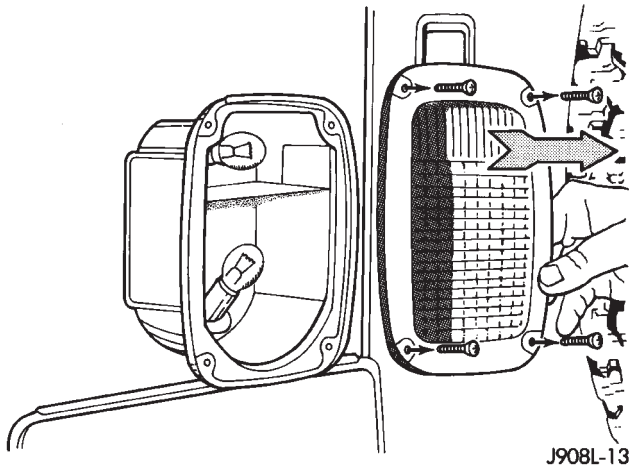

Fig. 2 Lens Removal
- (1) Remove the screws attaching the lens to the tail lamp housing (Fig. 2).
- (2) Separate the lens from the tail lamp housing.